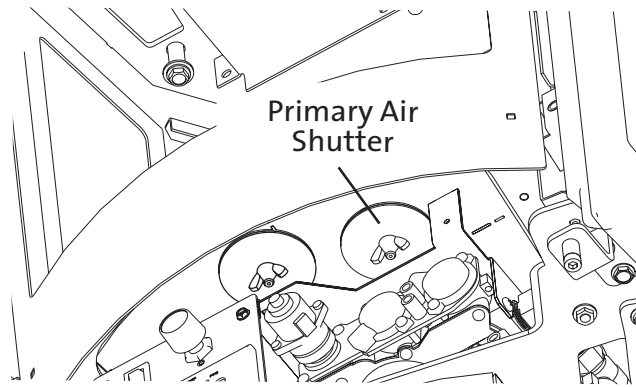

Figure 2. Primary air Shutter location
3. Loosen the primary air shutter wingnut and push the stem all the way back. Fig. 2.